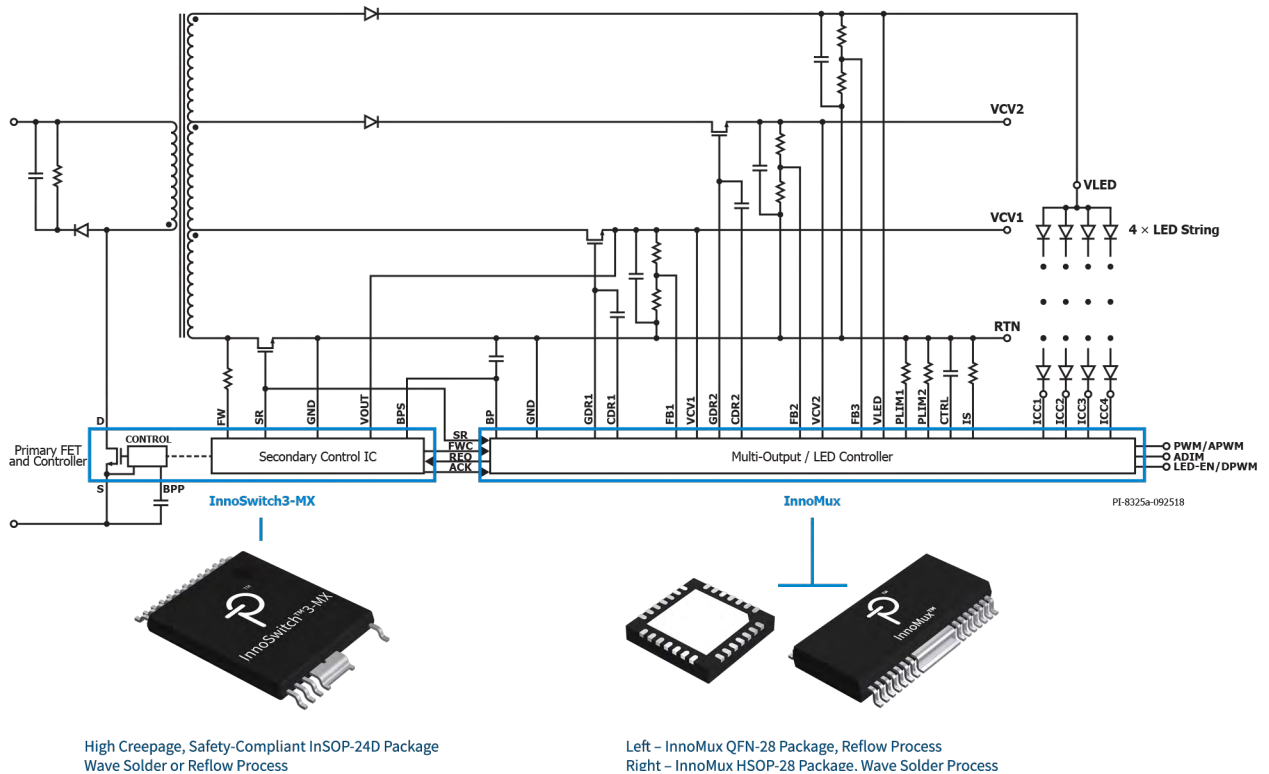

Figure 5 Two CV, one CC schematic showing four-string LED current balancing and CV output power limit settings
Figure 5 shows a complete secondary schematic utilizing the full capability of the InnoMux family in a system with two constant voltage (CV) outputs and a third constant current (CC) output. The circuit is representative of a computer monitor power system, where the two CV outputs (typically 12 V and 5 V) are regulated via the FB1 and FB2 pins while a third output, VLED, feeds a four-channel LED backlight. Pins ICC1–ICC4 receive the load current from each LED string and perform internal measurement, regulation and VLED adjustment to accurately balance the LED string currents to within less than 3%. Dimming inputs offer either analog, PWM or hybrid dimming down to 5 mA LED current per channel or 2% of maximum.
Another feature of the multiplexed power supply is that the system designer can choose the overload power available to each output. In Figure 5, the resistors on pins PLIM1 and PLIM2 control the maximum frequency of energy delivery to outputs VCV1 and VLED respectively according to the values shown in Table 1. A novel scheme using an additional capacitor on either PLIM1 or PLIM2 pins (as shown in Table 2) is used to set the maximum frequency for energy delivery to output VCV2. This provides a very useful advantage over multi-output flyback converters where traditionally components on each output must be rated to receive the full output power of the primary control circuit in an overload condition. In an InnoMux design, output components can be sized via Table 1 to support only the maximum power delivery of that specific output.
Figure 6 shows measured output current waveforms in a 2 CV and 1 CC application of the type shown in Figure 5.